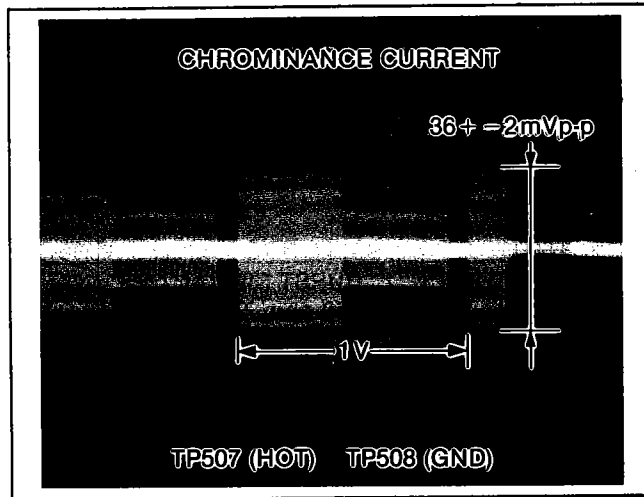

Figure E6
4. Adjust the VR3003 for 36 +/- 2Vp-p as shown in Figure E6.